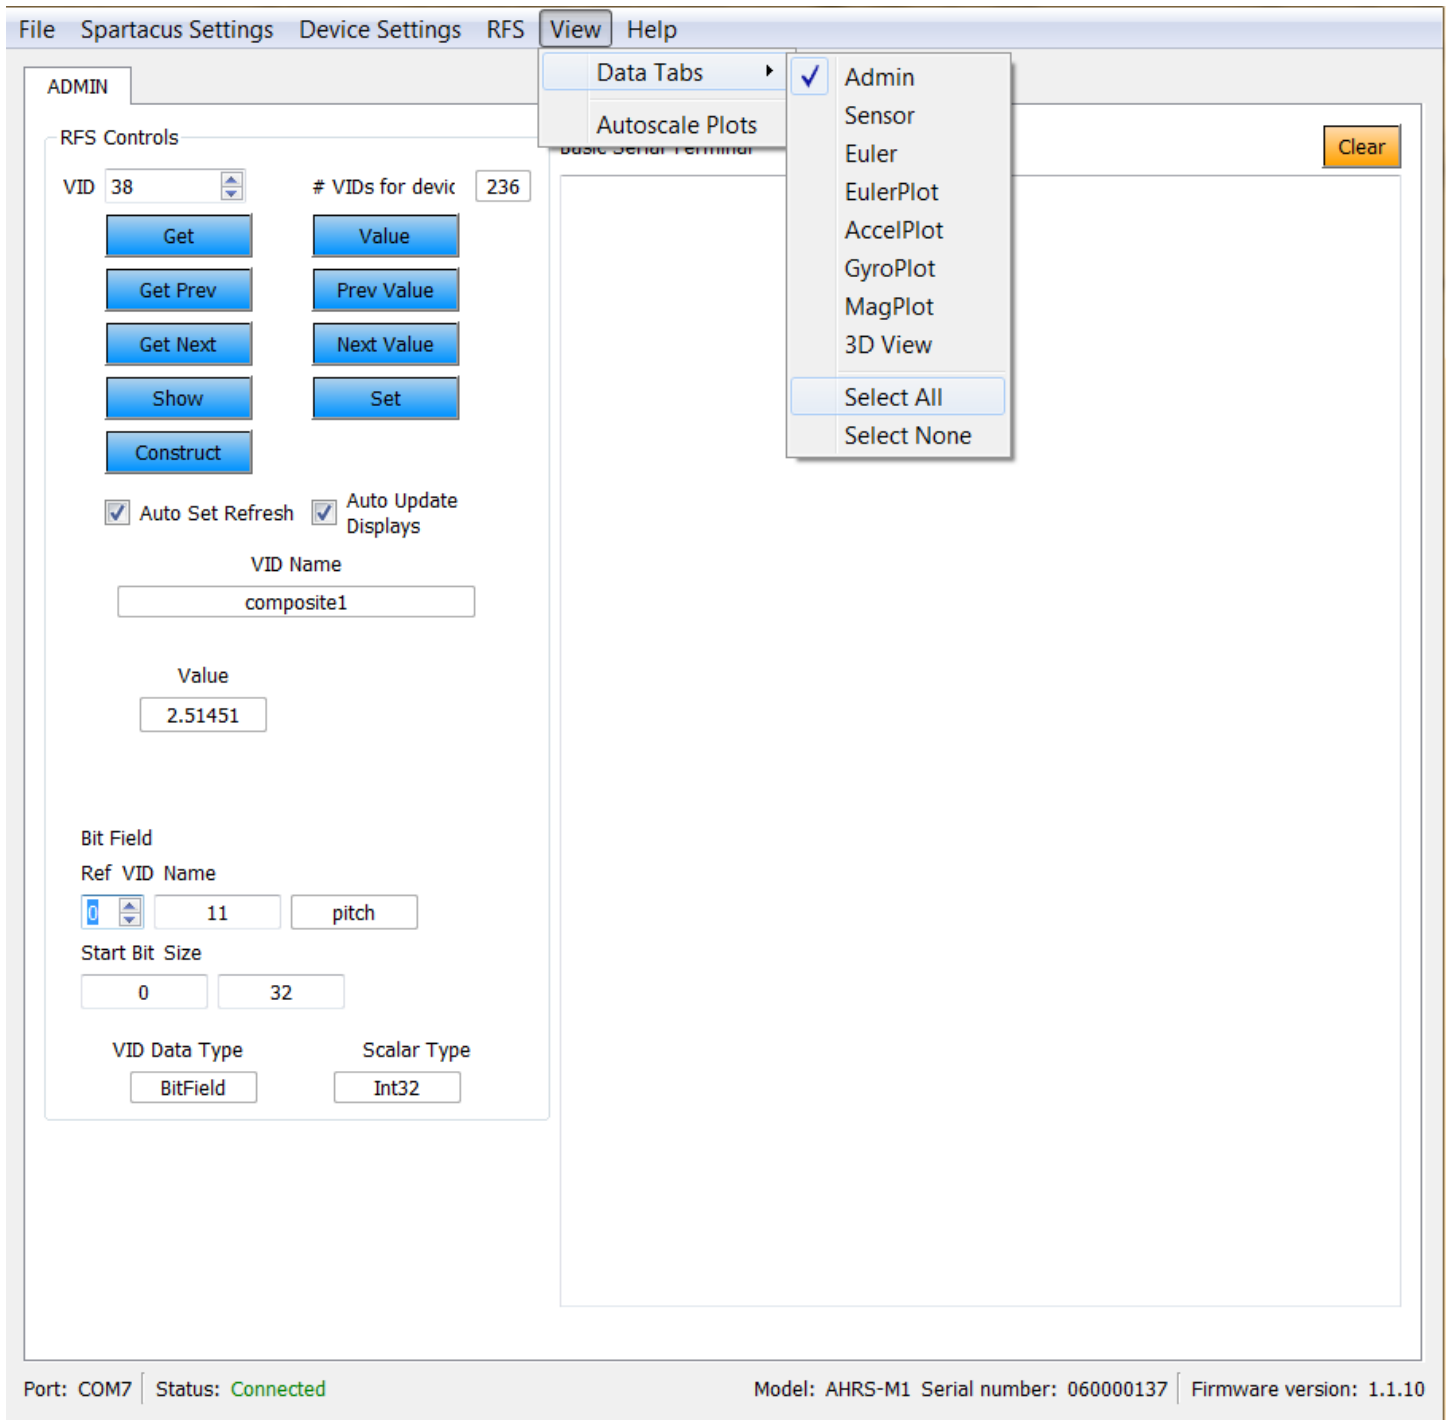

Figure 2: Enabling All Data Tabs
7. In order to enable the various data views, select View → Data Tabs → Select All (Figure 2).